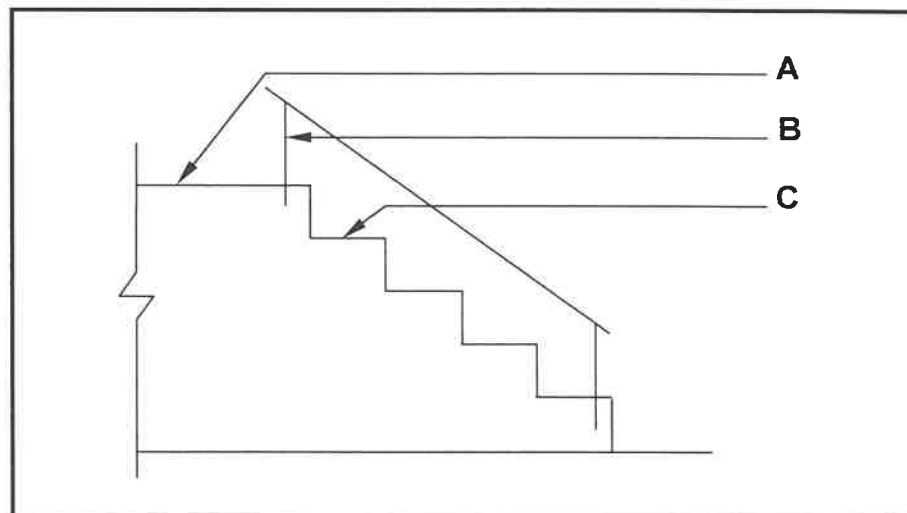

FIGURE 3.4
- 3.4 FIGURE 3.4 below shows a straight flight of stairs. Identify A, B and C. (3)